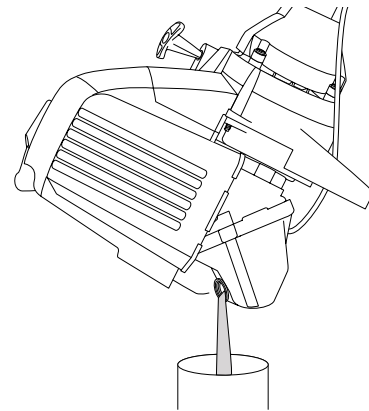

Fig. 41
3. Pour the oil out of the oil fill hole and into a container by tipping the unit to a vertical position (Fig. 41). Allow ample time for complete drainage.